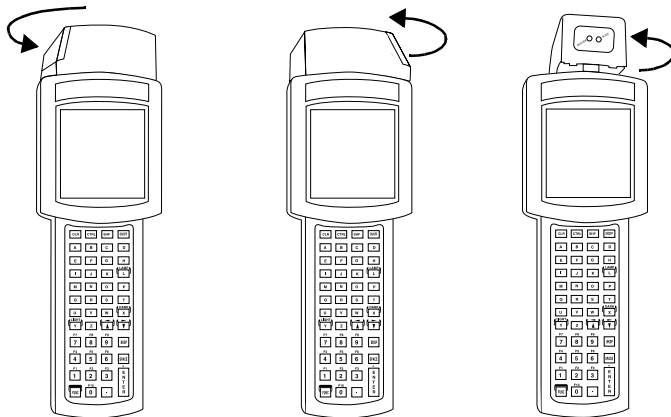

Figure 4-3. Positioning the Scanner
2. Lift up and turn the the scan element on the top of the terminal to the preferred orientation for scanning (refer to Figure 4-3). The scan head turns only toward the back of the terminal.